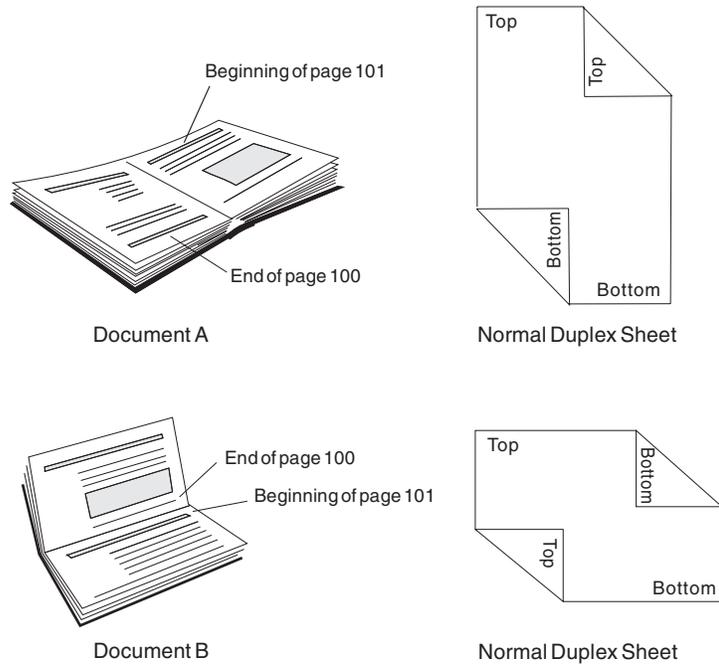

Figure 23. Duplex documents A and B specified as normal duplex
- If the sheets are to be bound on the long edge of the paper, as Document A and Document B are in Figure 23 on page 57, specify *normal duplex*.
Figure 23 shows Document A and Document B printed with normal duplex. Notice that the pages are printed in the *portrait position* for Document A and in the *landscape position* for Document B.